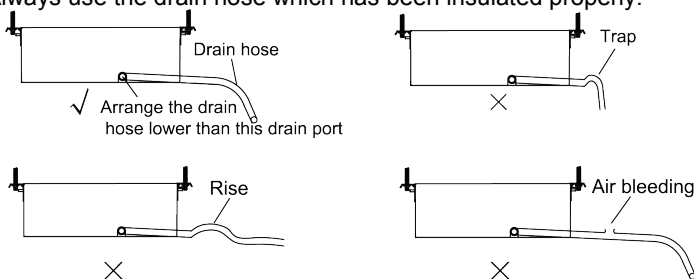

Fig. 4.21
- (1). Install the drain hose with downward gradient (1/50 to 1/100) and no risers or traps are used for the hose (Fig. 4.21).
- (2). Be sure there is no crack or leak on the drain hose to avoid the formation of air pocket (Fig. 4.21).